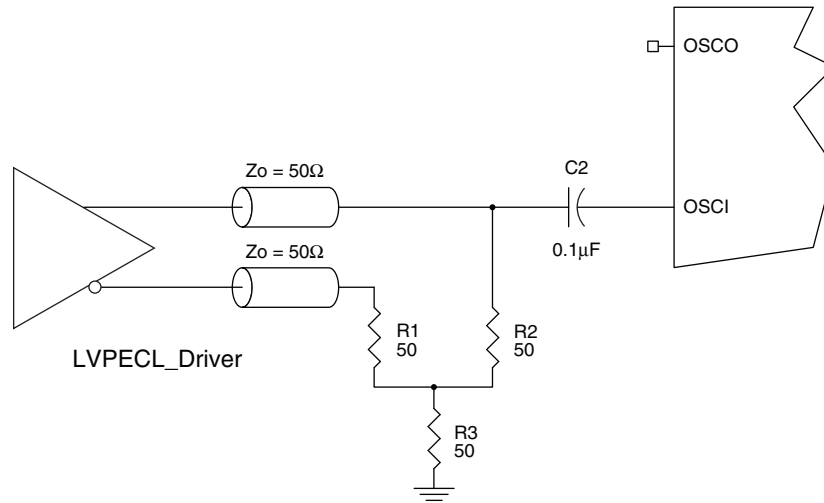

Figure 10. LVPECL Driver to XTAL Input Interface
**Figure 10** shows an example of the interface diagram for an LVPECL driver. This is a standard LVPECL termination with one side of the driver feeding the **XIN/REF** input. Renesas recommends placing all the components of the schematics in the layout. Though some components may not be used, they can be used for debugging purposes. The datasheet specifications are characterized and assured by using a quartz crystal as the input.